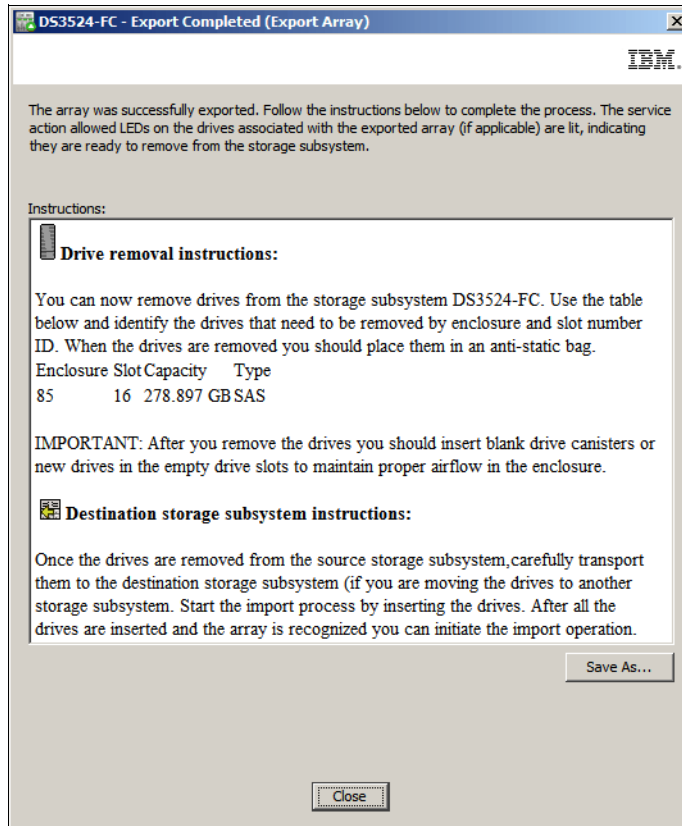
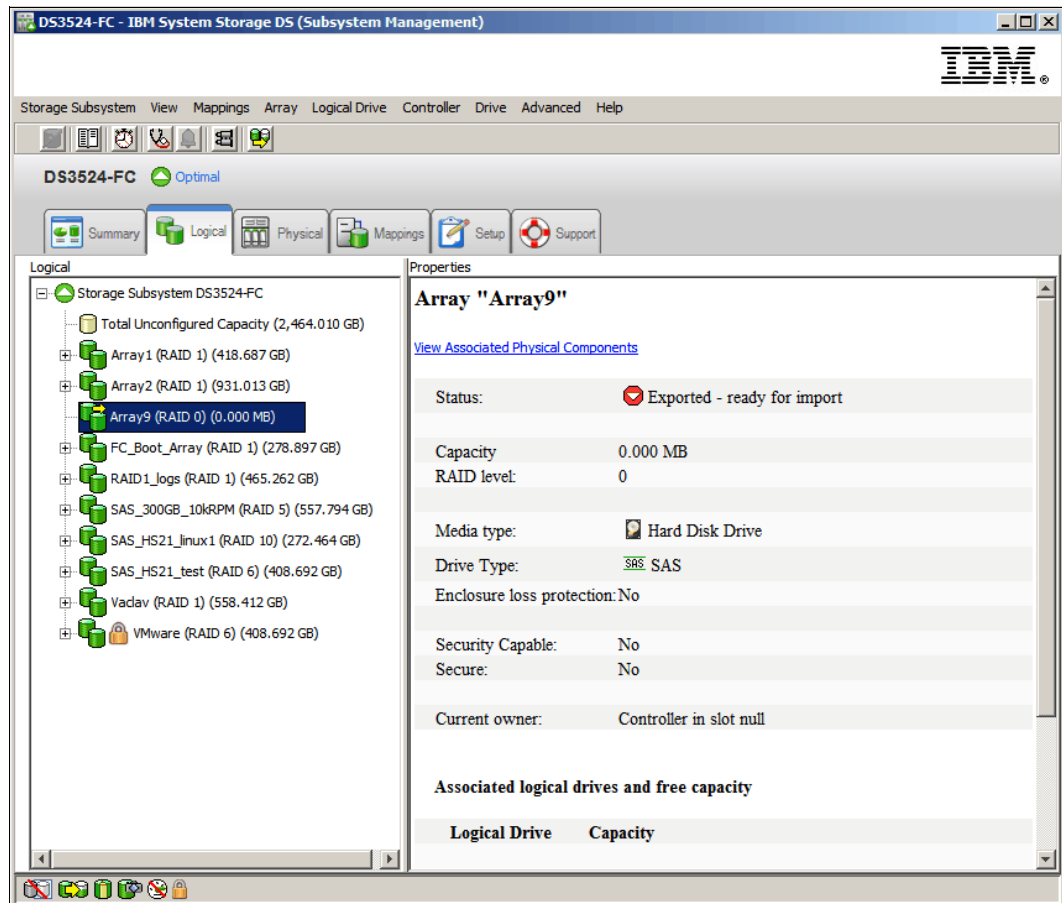

Figure 14-106 Export Completed (Export Array)
Figure 14-107 Exported - ready for import
6. The window shown in Figure 14-106 is displayed when the array has been exported. You can also confirm that the array has been exported by checking the Storage Manager logical tab as shown in Figure 14-107 on page 397. The status of the array is reported as Exported - ready for import.
7. Finally, the hard disks in the exported array can be carefully removed from the source DS3500 and installed into the empty slots of the target DS3500. The imported array then will have the status Exported - ready for import in the target DS3500, as shown in Figure 14-107.